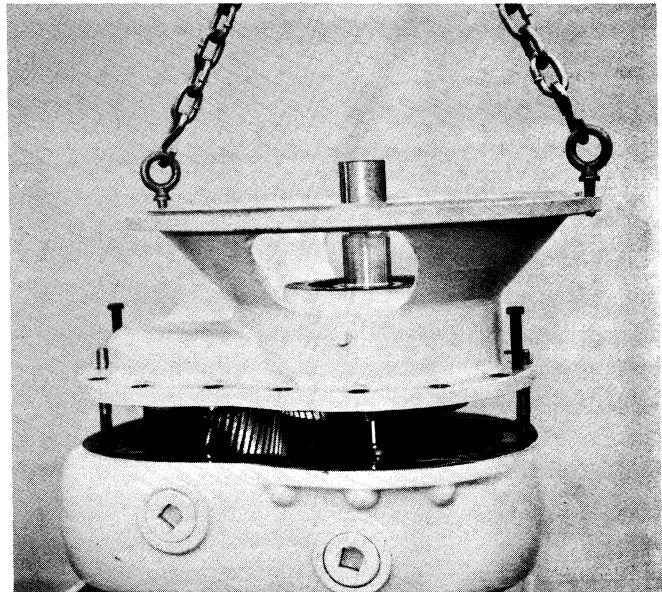

Figure 7
3. Remove the compressor gear case assembly from the rotor housing. This can be done by first attaching a rope or chain sling to the gear case; then, removing two opposite gear case to rotor housing attaching cap screws; and replacing these cap screws with studs, or headless bolts, approximately four to five inches (101.6 to 127.0 mm) long. These long studs, or headless bolts, may then act as guides when separating the gear case assembly from the rotor housing. Remove the balance of the attaching cap screws. The gear case assembly may now be jacked loose from the rotor housing, by means of the two $\frac{1}{2}$ " - 13 threaded jack screw holes found in the gear case to rotor housing flange. The assembly may then be lifted off and out of the rotor housing. Refer to Figure 7. Remove and discard the gear case gasket.